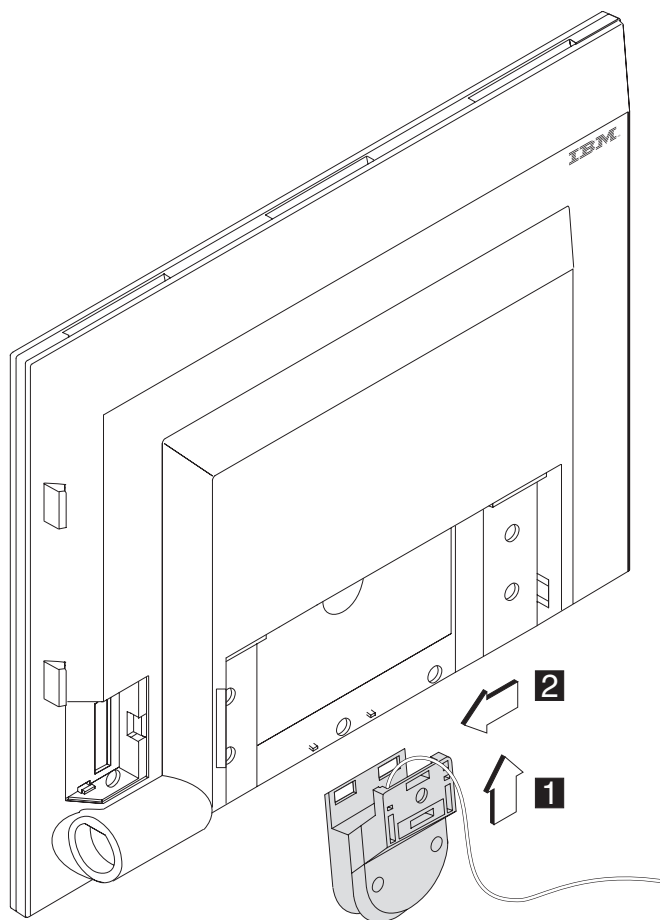

Figure 2-37. 4820 SurePoint Solution with optional pointing device
Note: The following steps assume that you align the 4820 and the pointing device as shown in Figure 2-37 on page 2-32.
2. Align the pointing device slightly right of center of the 4820 SurePoint Solution (see **1** in Figure 2-37 on page 2-32).